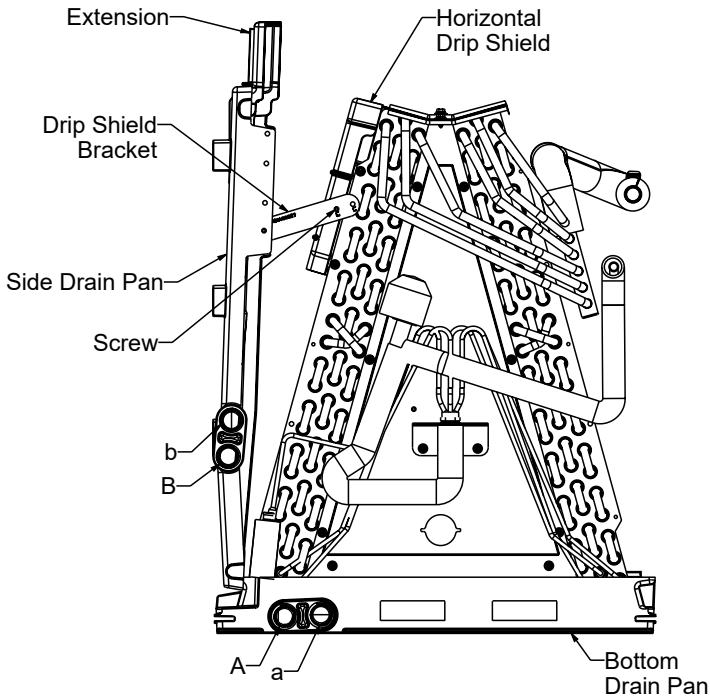

Figure 1
Drain port labeled (B) in Figure 1 is the primary drain for this application and condensate drain line must be attached to this drain port. Drain port (b) is for the secondary drain line (if used).